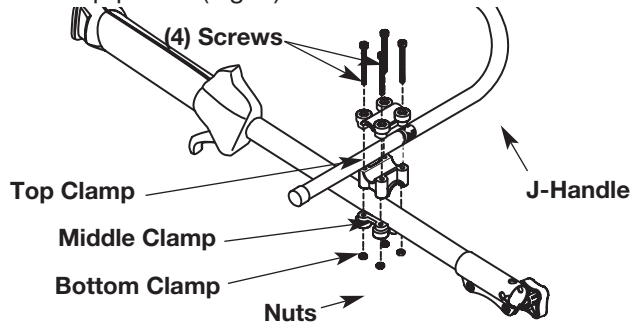

Fig. 1
1. Place the J-handle between the top and middle clamp pieces (Fig. 1).